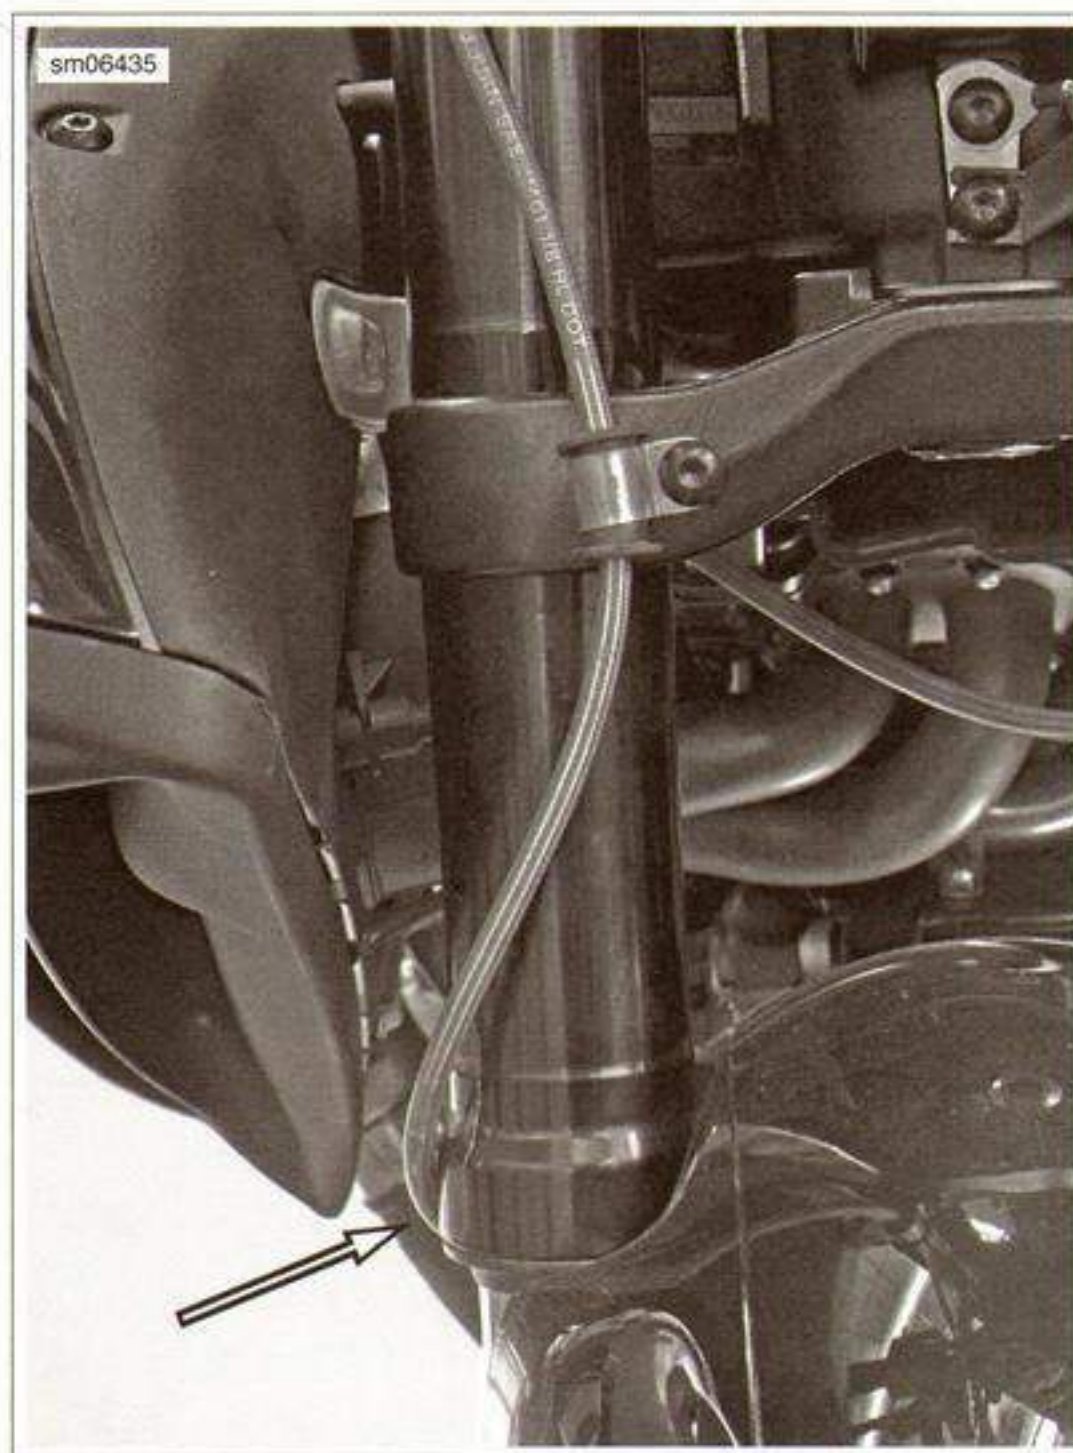

Figure 2-61. Brake Fluid Line Routing
3. See Figure 2-61. Route the fluid line from the master cylinder to the caliper in front of the lower fork clamp and around the outside of the fork tube.